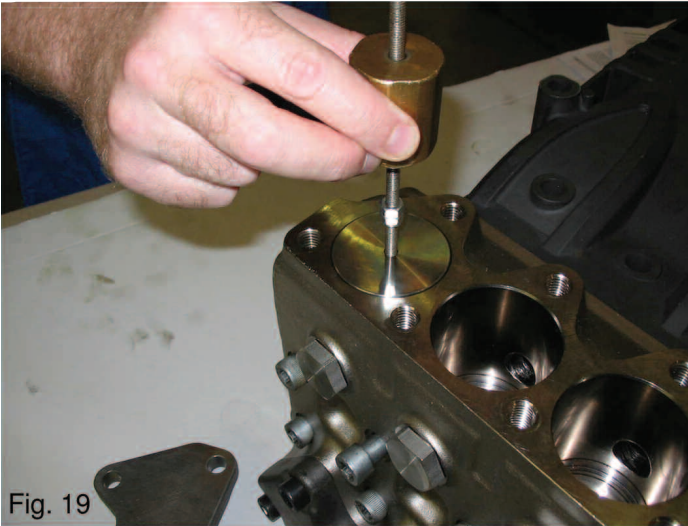

Fig. 19
- C) Extract the valve unit with the same tool. See Fig. 19)